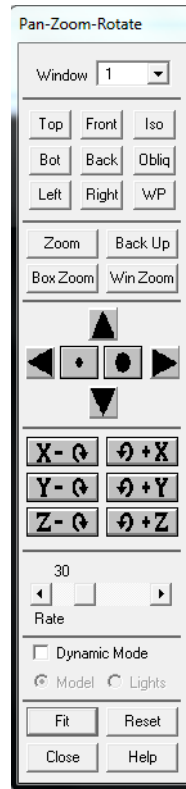

Figure 168: Pan-Zoom-Rotate dialog.
- ☑ Select **Pan Zoom Rotate** to open the **Pan-Zoom-Rotate** window, as shown in (Figure 168).